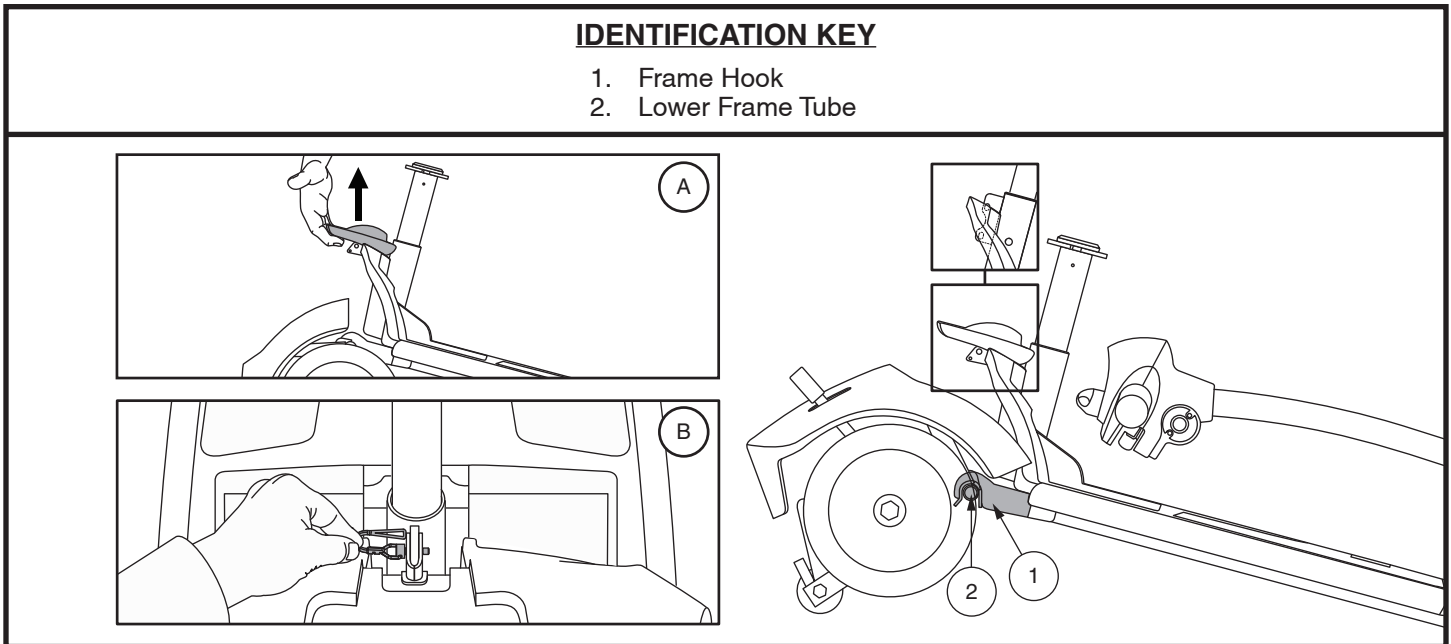

Figure 36. Frame Release Lever (Style A) and Frame Release Lock-up Pin (Style B)
4. Slowly separate the two sections of the Travel Scooter. See figure 36.
**NOTE:** Before attempting assembly, tilt the rear half of the Travel Scooter slightly back on the anti-tip wheels as shown in figure 36.
1. Use the frame release lever (or the seat post for models 29, 36, 336, 83, and 84 only) to lift the front section as you align the frame hooks of the front section with the lower frame tube of the rear section. See figure 36.
2. Once the frame hooks are over the lower frame tube, lower the front section and pivot the rear section simultaneously. This will engage the frame lock-up automatically for models AAP4, 39, 40, 44, 40LX, 40X, 44X, 40E, 402E, 44E, 442E, 44LX, 49, 50LX, 50LXLIT, 53, 53HD, 54, 54LX, 54LXLIT, 54ALX, 54HD, 66, 67, 73, 74, and Jazzy ZTS. For models 29, 36, 336, 83, and 84, you will also need to reinstall the frame lockup pin to complete the body assembly. See figure 36.